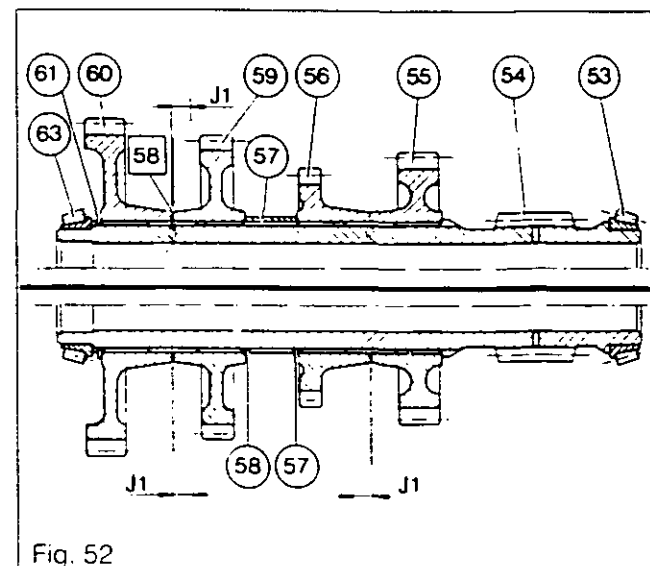

Fig. 52
**The gap J1 is calculated according to machining tolerances (Fig.52).**
b) Carry out procedures 28 and 29 in reverse. Slide the spacer (57) on to the shaft. Fit the 2nd gear (59), the 1st gear (60) and the circlip (61).
Using a set of shims, measure the space between the 1st gear (60) and the 2nd gear (59). On the basis of the measurement, select a thickness of shims to obtain (Fig.52):